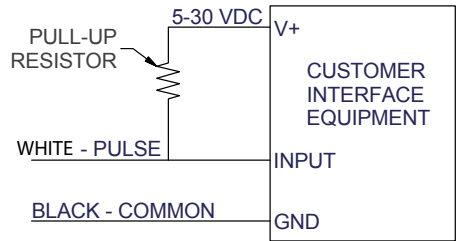

Figure 1
**NOTE:** Some interface devices may not have an internal pull-up resistor. Use a minimum 820 ohms resistor if necessary (See Figure 1).